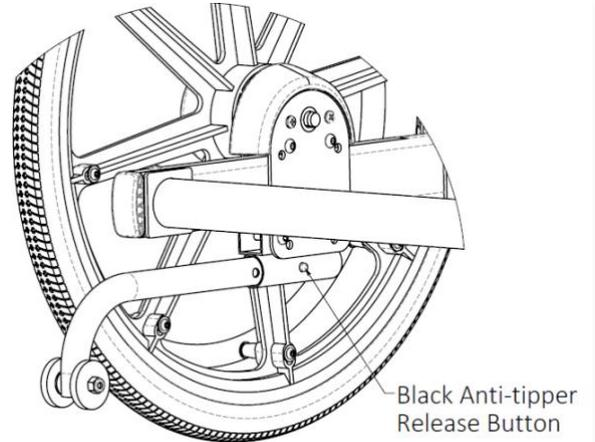

Figure 15.34: Installing rear anti-tip
1. Press and hold the release button on the anti-tipper tube. (See Figure 15.34)